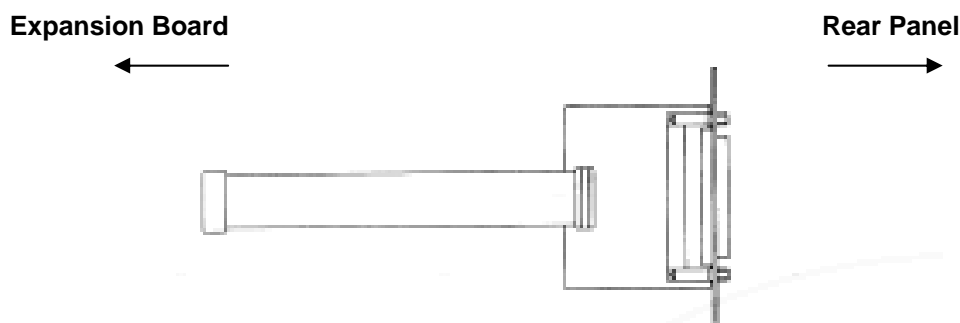

Figure 2.4 Internal Cable
5. Mount the expansion board internal cable in place of the blind covers (Figure 2.4).